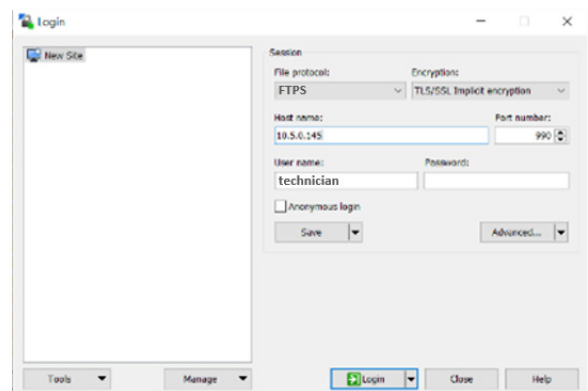

Figure 54: Enter 'technician' as the user name in the FTPS client connection.
2. Enter 'technician' as the FTPS user name as shown in **Figure 54**, enter the password as defined in the maintenance menu, and then click **Log On** or **Connect**.